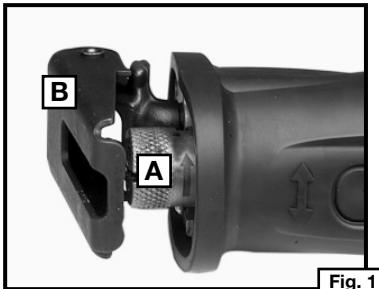

Fig. 1
1. Fully extend the reciprocating shaft to permit access to the keyless Quik-Change™ blade release collar (A) Fig. 1. If necessary, connect the tool to the power source and gently squeeze the trigger switch to move the reciprocating shaft to its outermost position (in Fig. 1).
2. Pivot the guide shoe (B) Fig. 1 forward to improve access to the blade clamp.